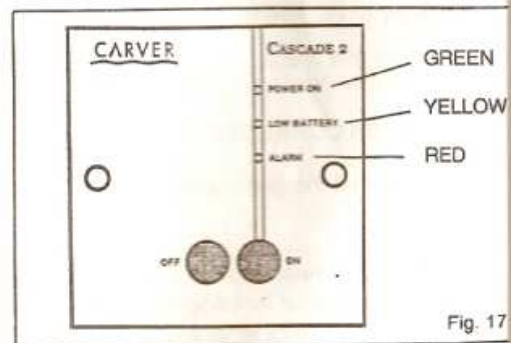

Fig. 17
5...If green and yellow lights show then the voltage to the control is too low. Recharge the battery. (See Fig. 17)